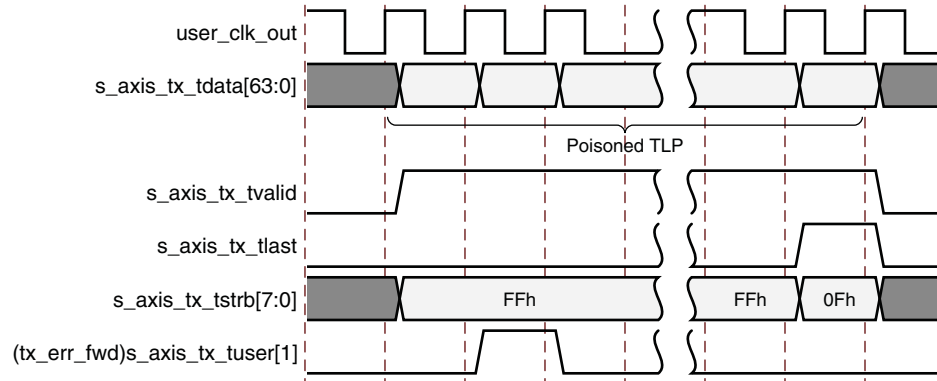

Figure 3-12: Packet Data Poisoning on the Transmit Interface
- Assert (tx_err_fwd) s_axis_tx_tuser[1] for at least one valid data transfer cycle any time during the packet transmission, as shown in Figure 3-12. This causes the core to set EP = 1 in the TLP header when it transmits the packet onto the PCI Express fabric. This mechanism can be used if the User Application does not know whether a packet could be poisoned at the start of packet transmission. Use of terr_fwd is not supported for packets when (tx_str) s_axis_tx_tuser[2] is asserted (streamed transmit packets). In streaming mode, you can optionally discontinue the packet if it becomes corrupted. See Discontinuing Transmission of Transaction by Source, page 55 for details on discontinuing packets.